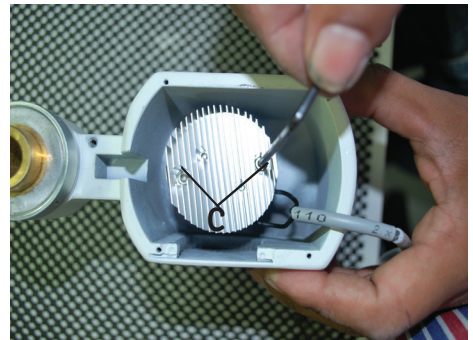

Figure- 26
5. Unscrew the two M3 Allen screws to disassemble the Heat sink by using 2.5 Allen Wrench shown as “C”. refer Figure-26.